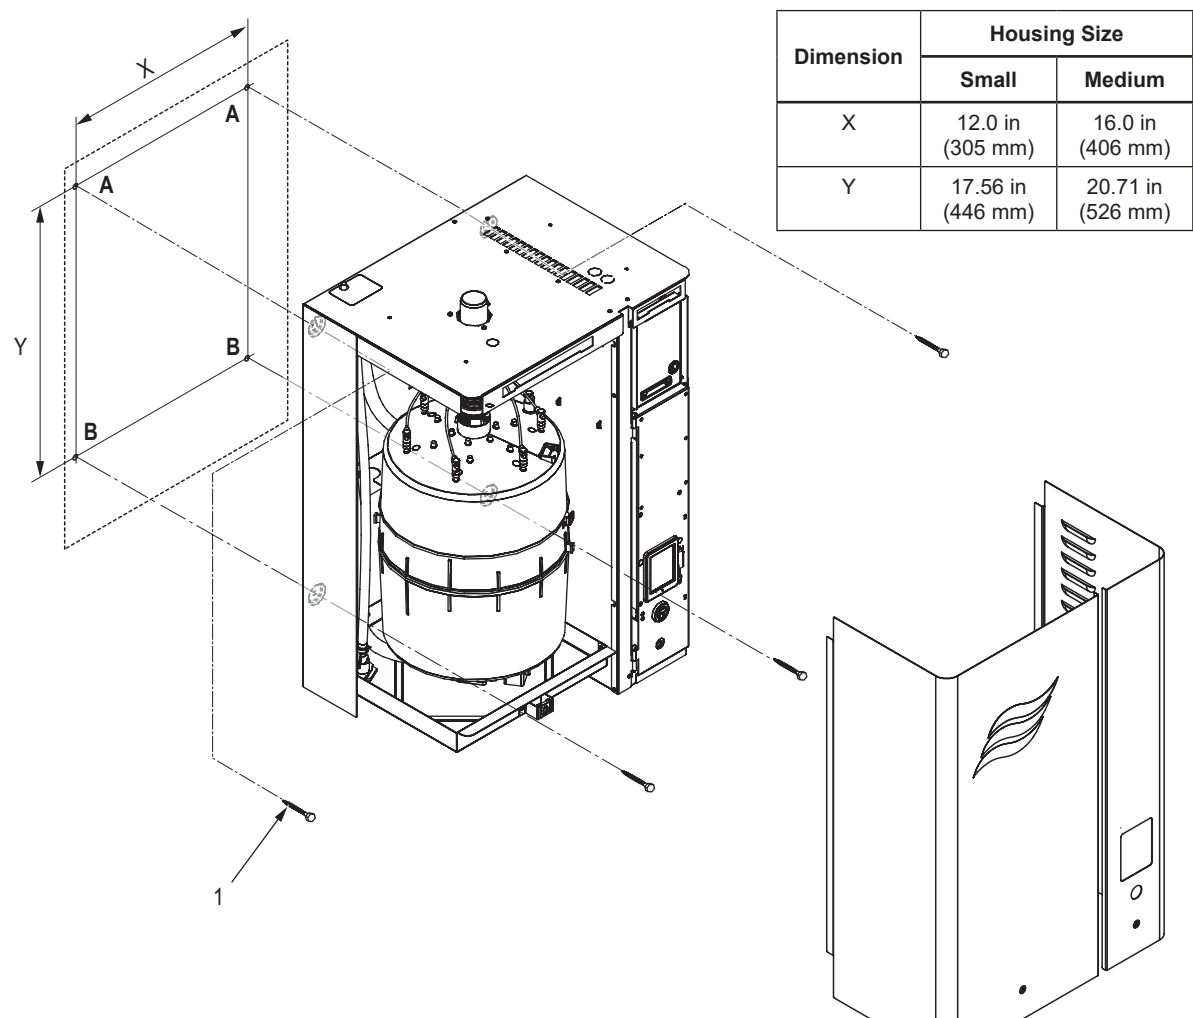
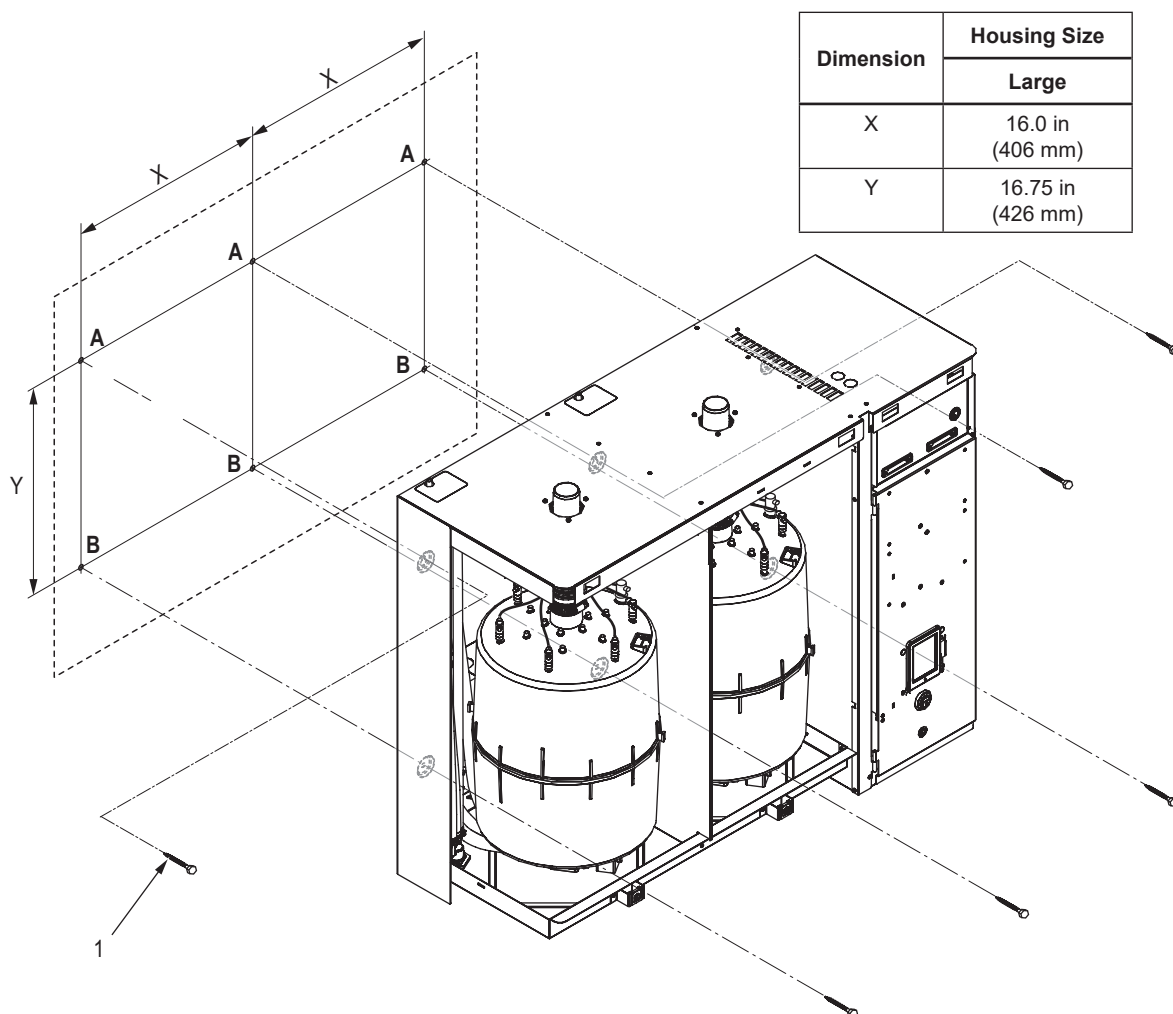

Figure 7: Standard Mounting, Small or Medium Housing
Figure 8: Standard Mounting, Large Housing
- 1. Locate 2×4 wooden studs or equivalent support in the mounting surface, and mark the attachment points “A” and “B” at the desired position with the help of a level. For small or medium housing refer to *Figure 7*. For large housing refer to *Figure 8* on page 23.